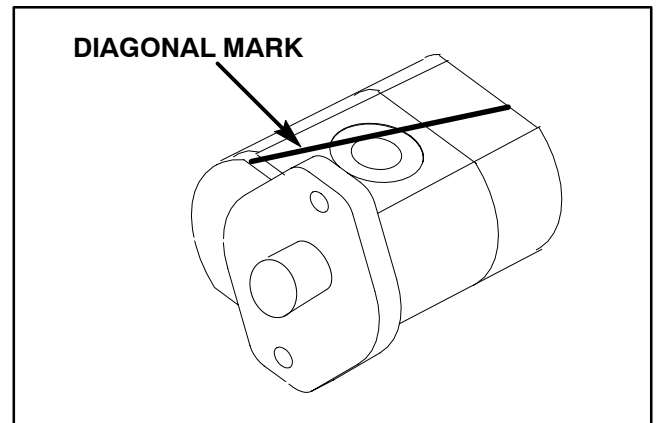

Figure 93
2. Use a marker or scribe to make a **diagonal** mark across the front flange, body, and rear cover for reassembly purposes (Fig. 93).